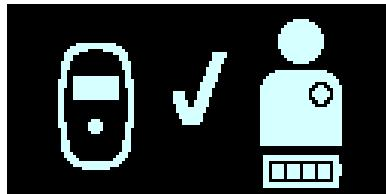

Figure 17: IPG Charging Successfully Completed Screen
- When the battery of your OPTIMIZER Smart Mini IPG is fully charged, your Guardio Charger will emit 3 short beeping tones and display the IPG Charging Successfully Completed screen, indicated by the flashing checkmark in the center of the screen (see **Figure 17**). Your Guardio Charger will then shut off automatically.